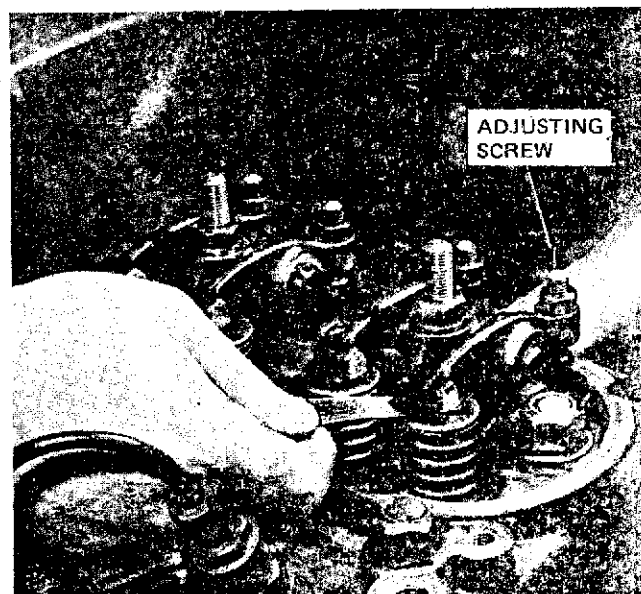

Figure 44 — Checking Valve Clearance
2. With the engine idling, check the clearance of each valve with a step-type feeler gauge, Figure 44.